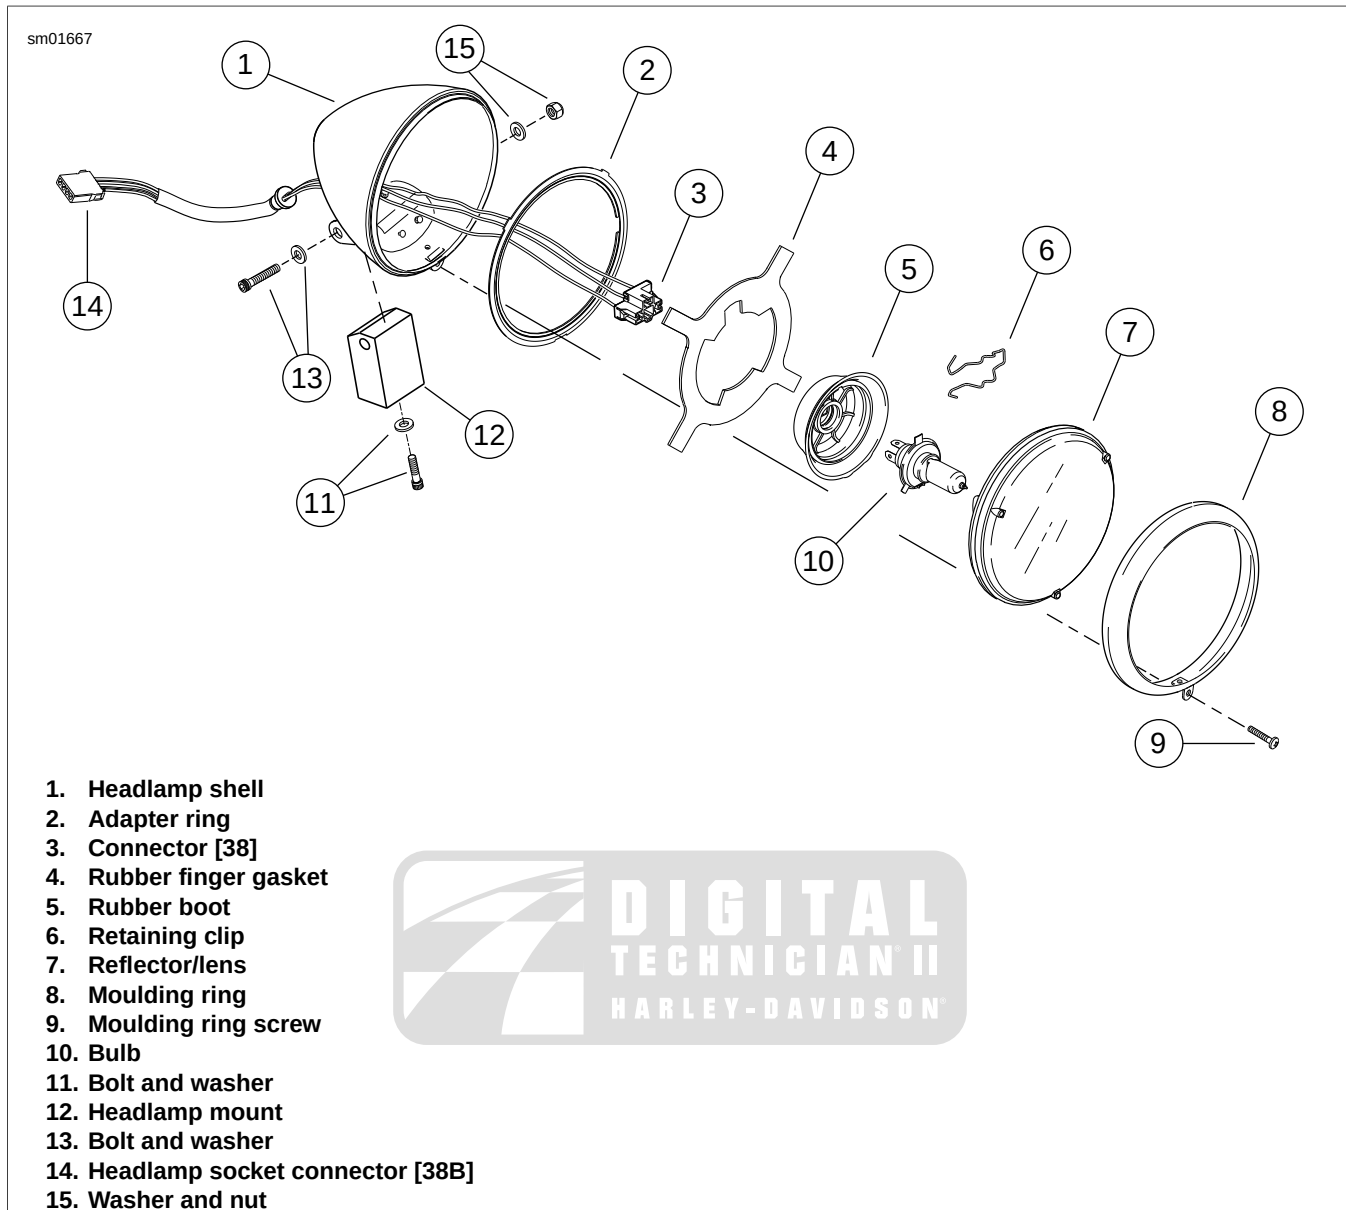

Figure 6-56. Headlamp Components: XL 883C/XL 1200C
14. See Figure 6-56. Fit the adapter ring (2) to the reflector/lens (7) and fit the adapter ring to the headlamp shell (1).